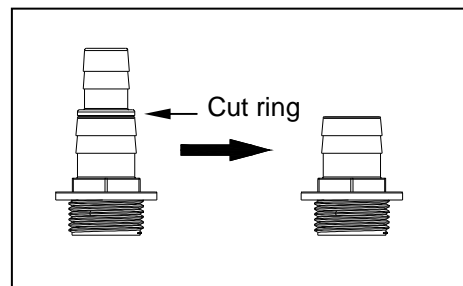

Fig. 13
13. If using 3/4 in. ID tubing, proceed to step 14. If using 1 in. ID tubing, cut the adapter as shown using a hacksaw. Fig. 13